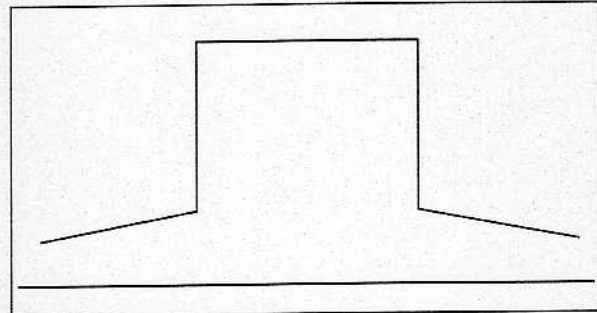

Fig. 27
- m) Readjust the input cavity tuning by a small amount (by small movements of the lower ring) to balance the shoulder amplitude (see Fig. 27).